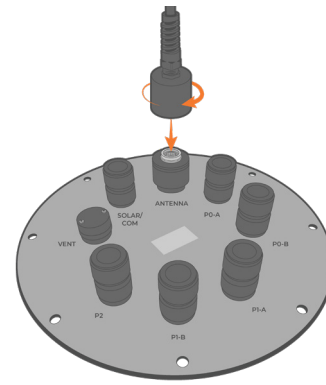

Figure 4: Proper antenna connection.
- b. Push down firmly (Figure 4), and turn the connector clockwise until the connection is hand-tight.